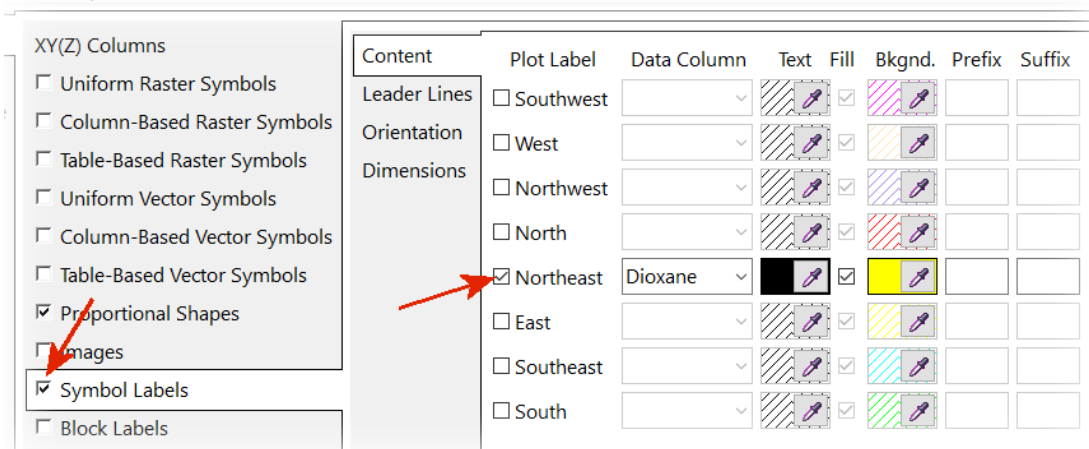

Figure 25
- We’ll be plotting labels adjacent to each symbol depicting the amount of measured Dioxane, so check the box labeled “*Symbol Labels*” (Figure 25). To plot the Dioxane value to the upper-right of the symbol, we’ll check the *Northeast* option and set the *Data Column* to “Dioxane”.